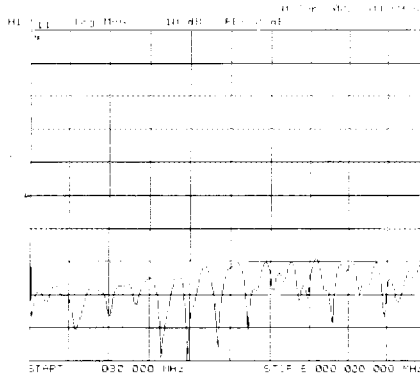

Figure 1-15. Forward Transmission Mode
- 12 Look at the measurement trace displayed on the HP 8702D. It should be similar to the trace displayed in Figure 1-15.